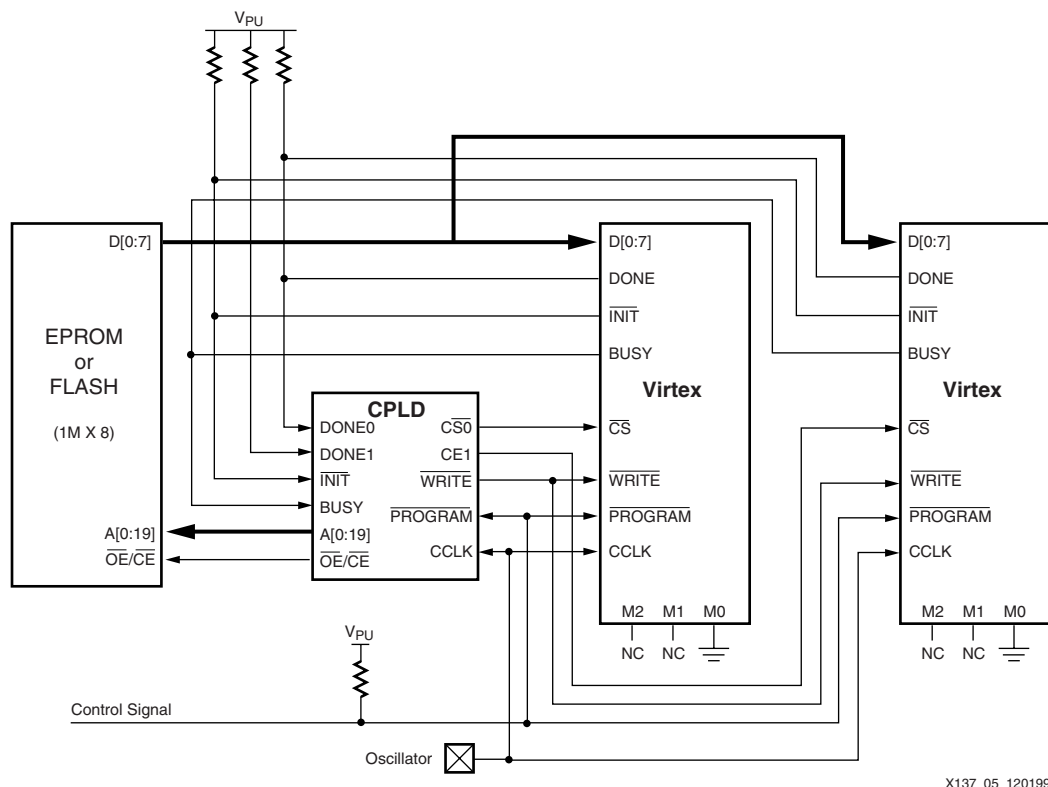

Figure 3-9: Configuring Virtex-II from Parallel EPROMs
- XAPP137: *Configuring Virtex FPGAs From Parallel EPROMs With a CPLD* (www.xilinx.com/apps/xappsumm.htm#xapp137) describes an architecture that configures one or more Virtex-II devices using the Slave SelectMAP mode. See Figure 3-9 for an example of FPGA configuration using a CPLD and a parallel EPROM.